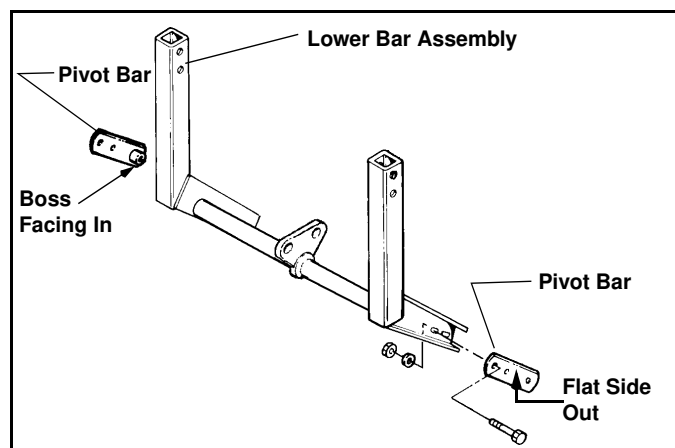

Figure 1
3. Loosely assemble Pivot Bar to Lower Bar Assembly outer arms. Use, two (2) 3/8" x 1-1/4" Cap Screw (#20), with two (2) 3/8" Washers on each Cap Screw and Nylock Nuts provided per Pivot Bar. (See Figure 1)
NOTE: Raised Boss on Pivot Bar must face to INSIDE of assembly. (See Figure 1)